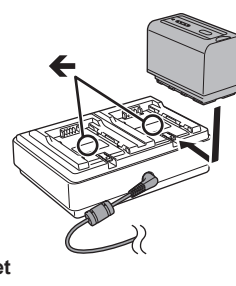

Fig. 3
**4** Mount the battery to the battery charger. (Fig. 3)